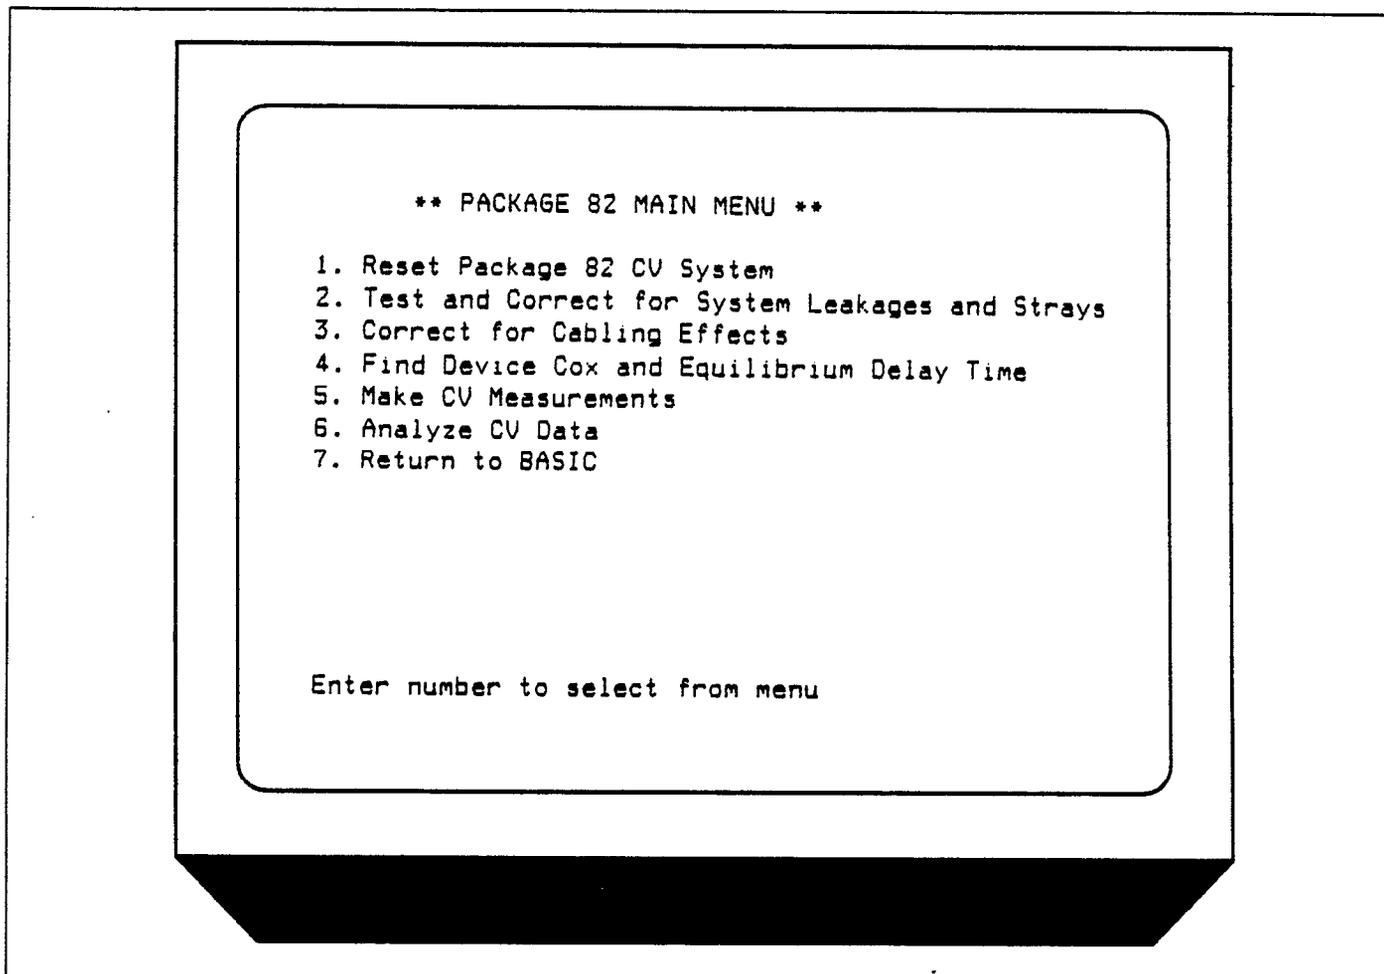

Figure 2-8. Main Menu
5. After the program loads, press the RUN key, or type in RUN and then press the EXEC key. The main menu shown in Figure 2-8 should appear on the computer display.
The main sections of the Package 82 software are discussed in the following paragraphs. These descriptions follow the order of the main menu shown in Figure 2-8. For detailed information on using the software to make measurements and analyze data, refer to Sections 3 and 4.